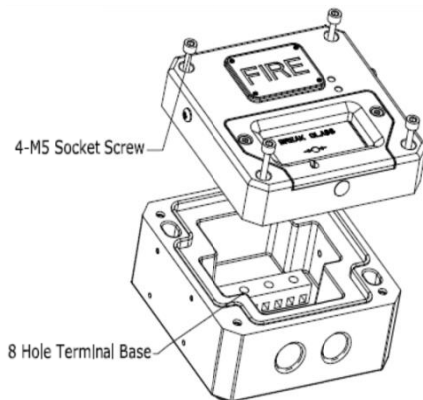

Fig.2
The cable connection is connected with the 8-hole terminal blocks marked T1-T8 located in the flameproof enclosure (See Fig 2). Cable connection should be carried out in accordance with relevant technical requirement.
Unscrew the four (4) M5 retained hex socket head screws. This will release the cover from the base and allow the cover to hang on the retaining wire strap. Before replacing the cover, check that the flameproof joints are clean and not damaged, the gasket is still retained in its groove. (See Fig 2)